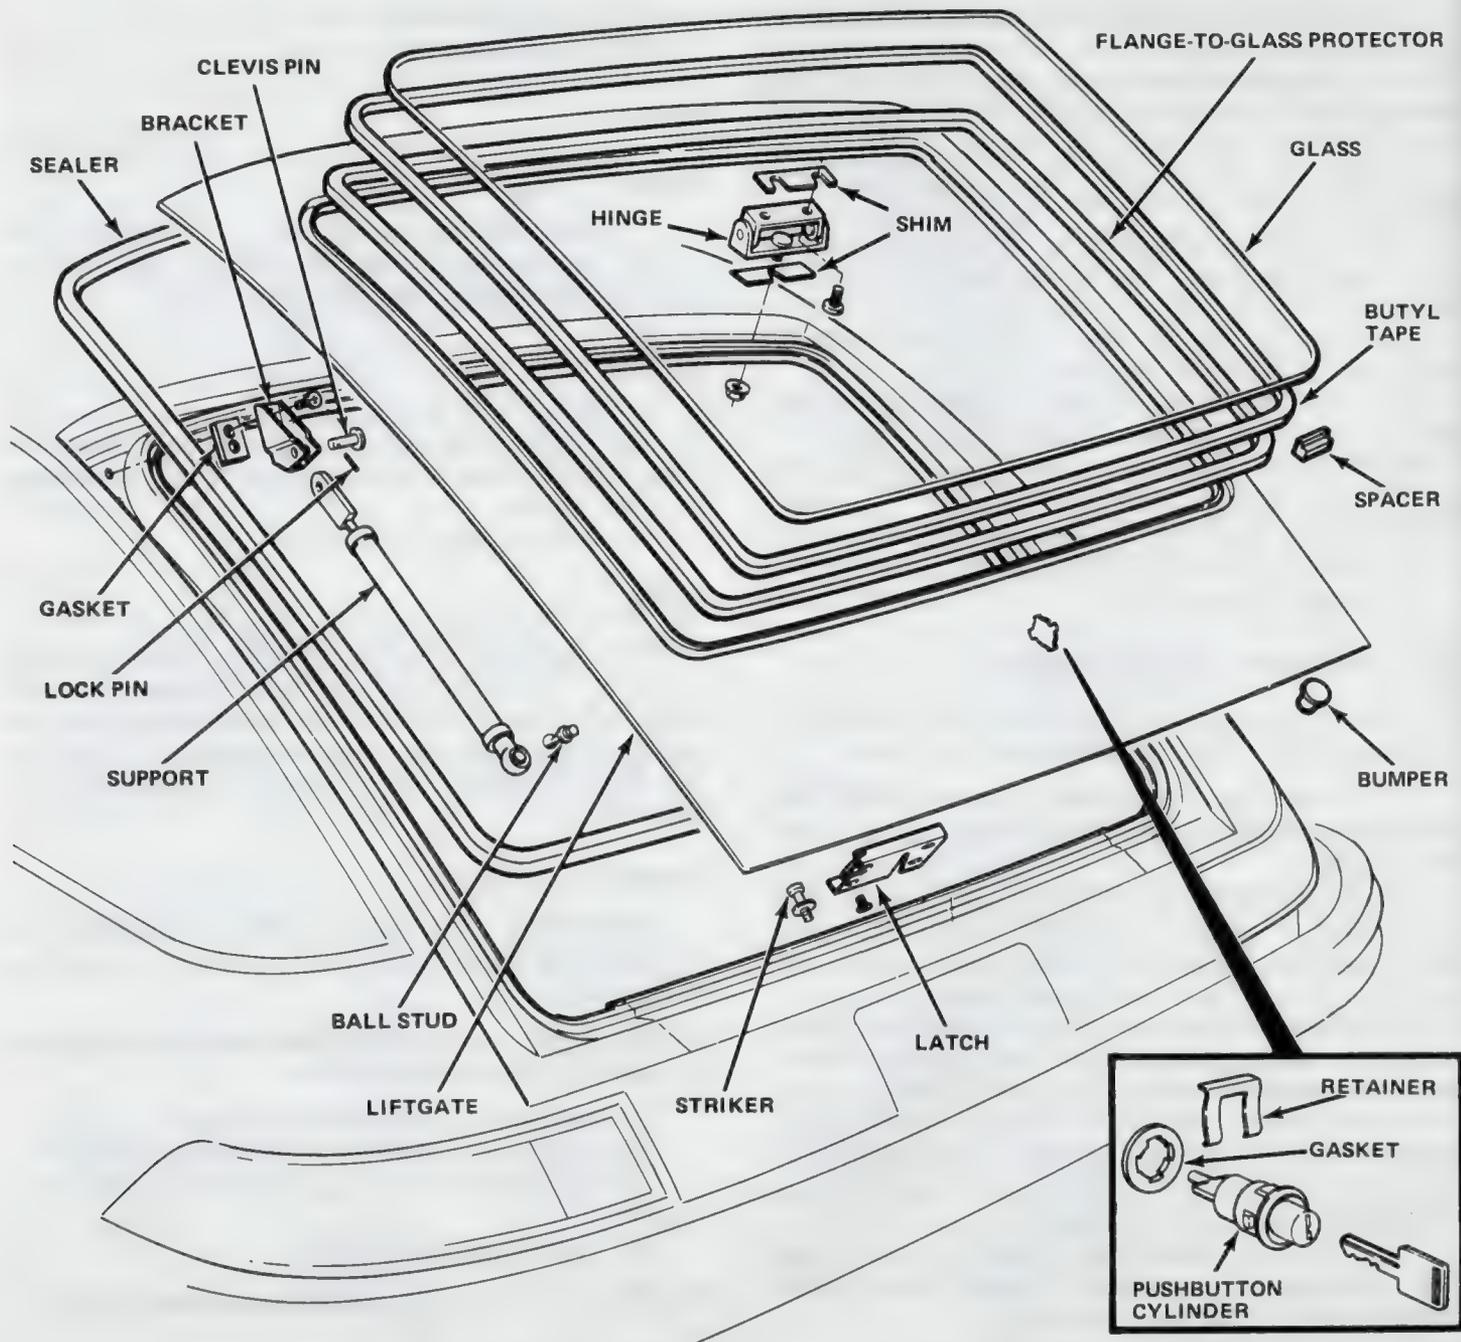

Fig. 3H-2 Pacer Hatchback Liftgate Components
WARNING: *Never remove supports with liftgate closed. The supports contain high pressure gas and may cause damage or personal injury if removed with liftgate closed. After removal, do not attempt to dismantle or repair the supports. Refer to figure 3H-3 for specific instructions for disposal*
(2) Remove ball stud retainer (fig. 3H-2).
(3) Pull support off ball stud attached to liftgate.
(4) Remove lockpin and clevis pin attaching support to bracket. Remove support.
For specific disposal instructions, refer to fig. 3H-3.